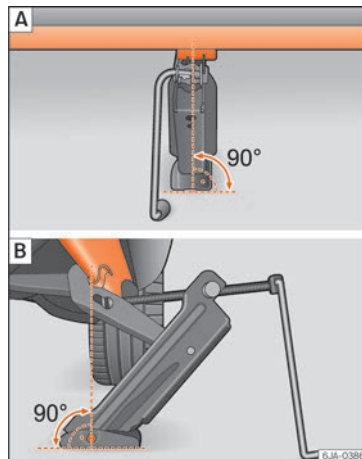

Fig. 65 Fitting the jack.
- Turn the jack*, located below the strut support point, to raise it until the tab is below the housing provided »» Fig. 65 [A].
- Align the jack* so that the tab "grips" onto the housing provided on the strut and the mobile base is resting on the ground »» Fig. 65 [B]. The base plate 2 should fall vertically with respect to the support point.